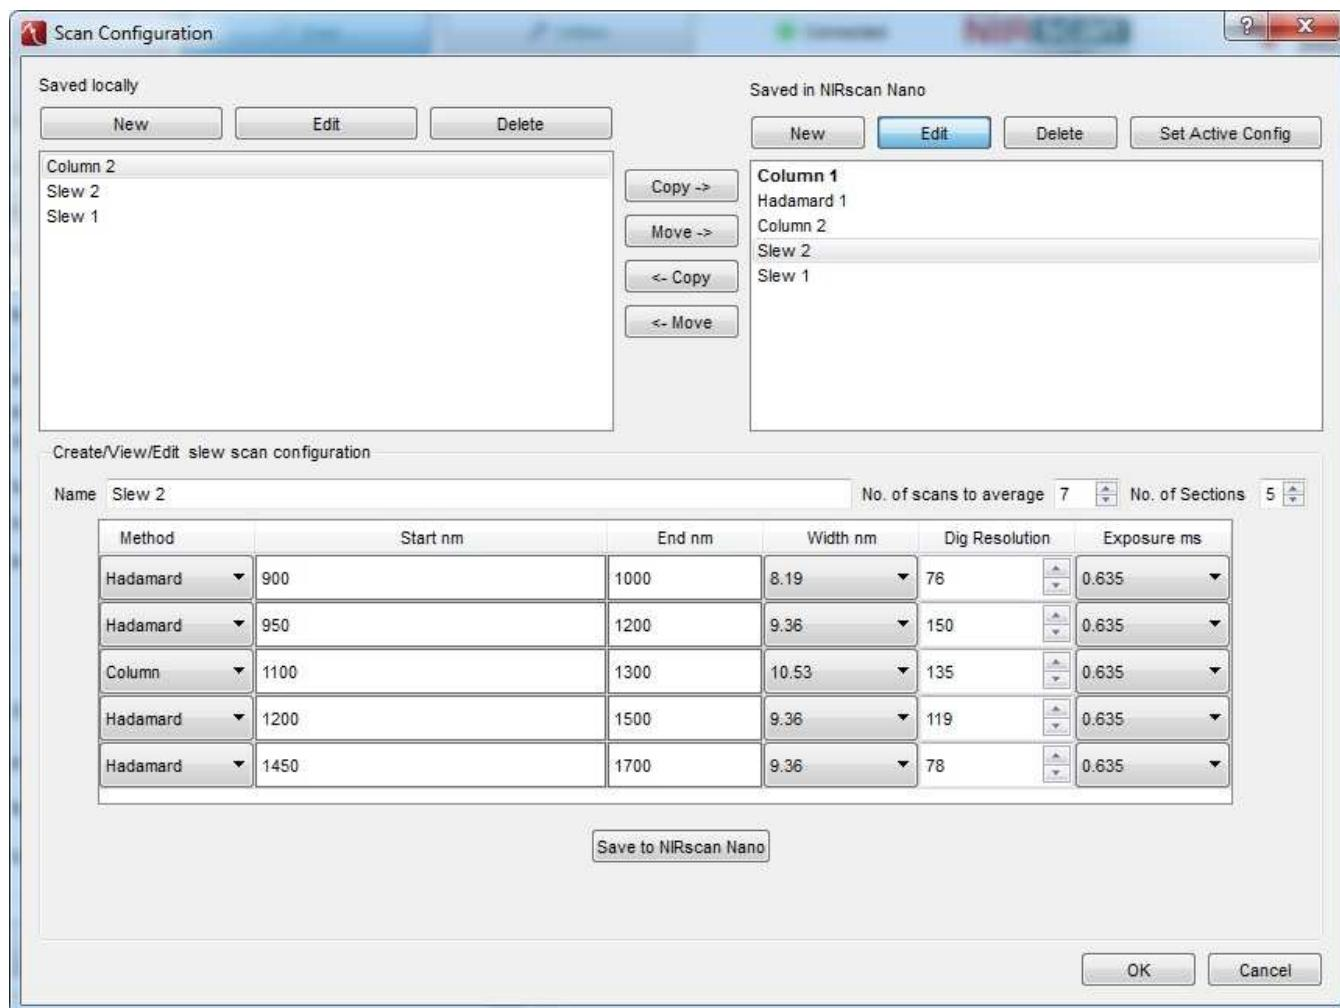

Figure 3-3. DLP NIRscanNano GUI Scan Configuration Dialog
A scan configuration must be created to scan a sample. (See Figure 3-3 for the Scan Configuration dialog screen.) The DLP NIRscan Nano comes pre-loaded with two scan configurations from the factory: "Column 1" and "Hadamard 1" scan configurations. A **scan configuration** specifies the following parameters of a scan:
2. The Scan Configuration dialog box shown in Figure 3-3 has three sections: